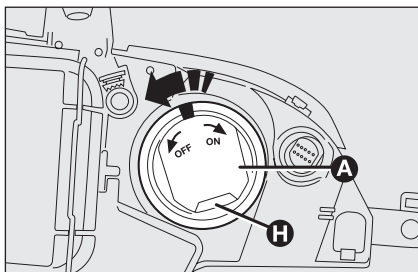
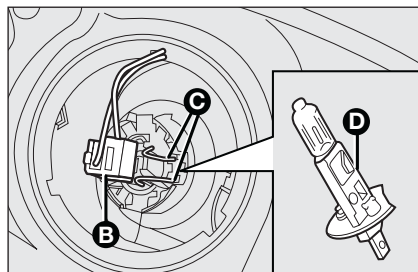

fig. 20
fig. 21
- ☐ turn the cap **A**-**fig. 20** anticlockwise and remove it;
- ☐ disconnect the electrical connector **B**-**fig. 21**;
- ☐ release the bulb catch **C**-**fig. 21**;
- ☐ remove the bulb **D**-**fig. 21** and change it;
- ☐ refit the catch **C**-**fig. 21**, connect the electrical connector **B** and fit the cap **A**-**fig. 20** turning it clockwise. Put the cap ventilation outlet **H**-**fig. 20** from the top downwards.